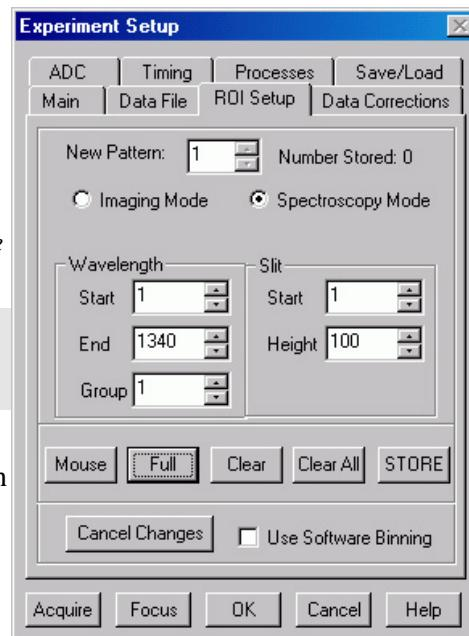

Figure 123. ROI Setup tab page
1. Open the **Experiment Setup** dialog and click on the ROI Setup tab to open the **ROI Setup** tab page (Figure 123).